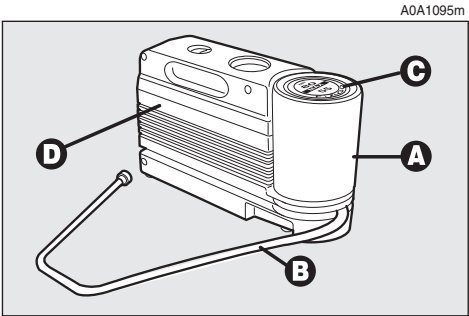

fig. 10
The quick repairing kit **fig. 10** is placed in the boot inside the appropriate container, which includes also the screwdriver and the tow ring.
- a bottle **A-fig. 10** containing sealer and fitted with: